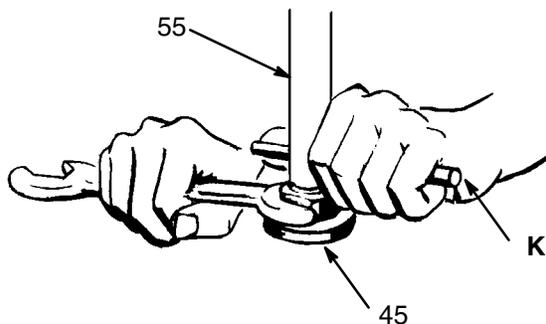

Fig 9-1
3. Clamp the pump base (35) in a vise. Screw the priming tube (46) off of the displacement cylinder (61).
4. Hold the displacement tube (55) with the rod (K) and screw the priming plunger (45) off the displacement tube.
5. Use a pipe wrench at the knurled part of the displacement cylinder (61) to screw it out of the base. Screw the packing retainer (60) out of the tube. Remove the seal (59), guides (56,58) and packing (57). See Fig 9-1.